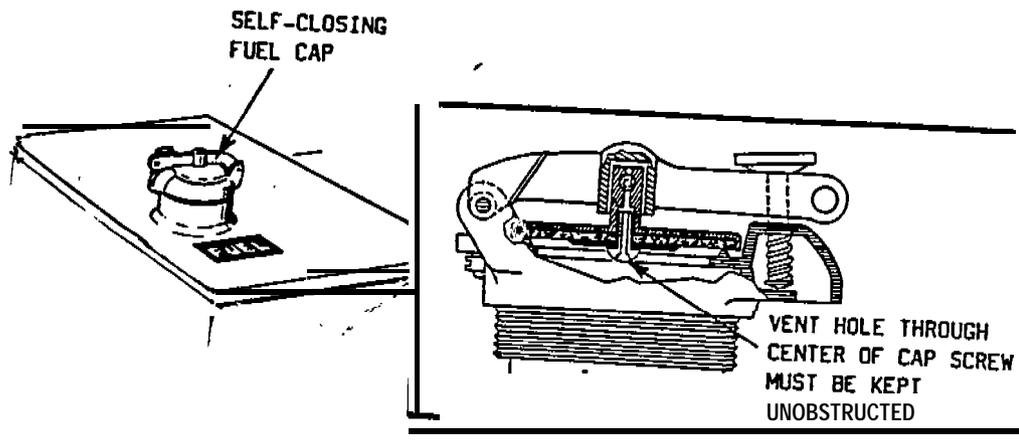

FIGURE 1 - FUEL CAP
- (WEEKLY) 3. () The fuel cap is vented and self closing, and attached to the tank in a manner which will prevent loss during refueling. (Vent hole through center of cap must be operable.) (Figure 1 [1]*)